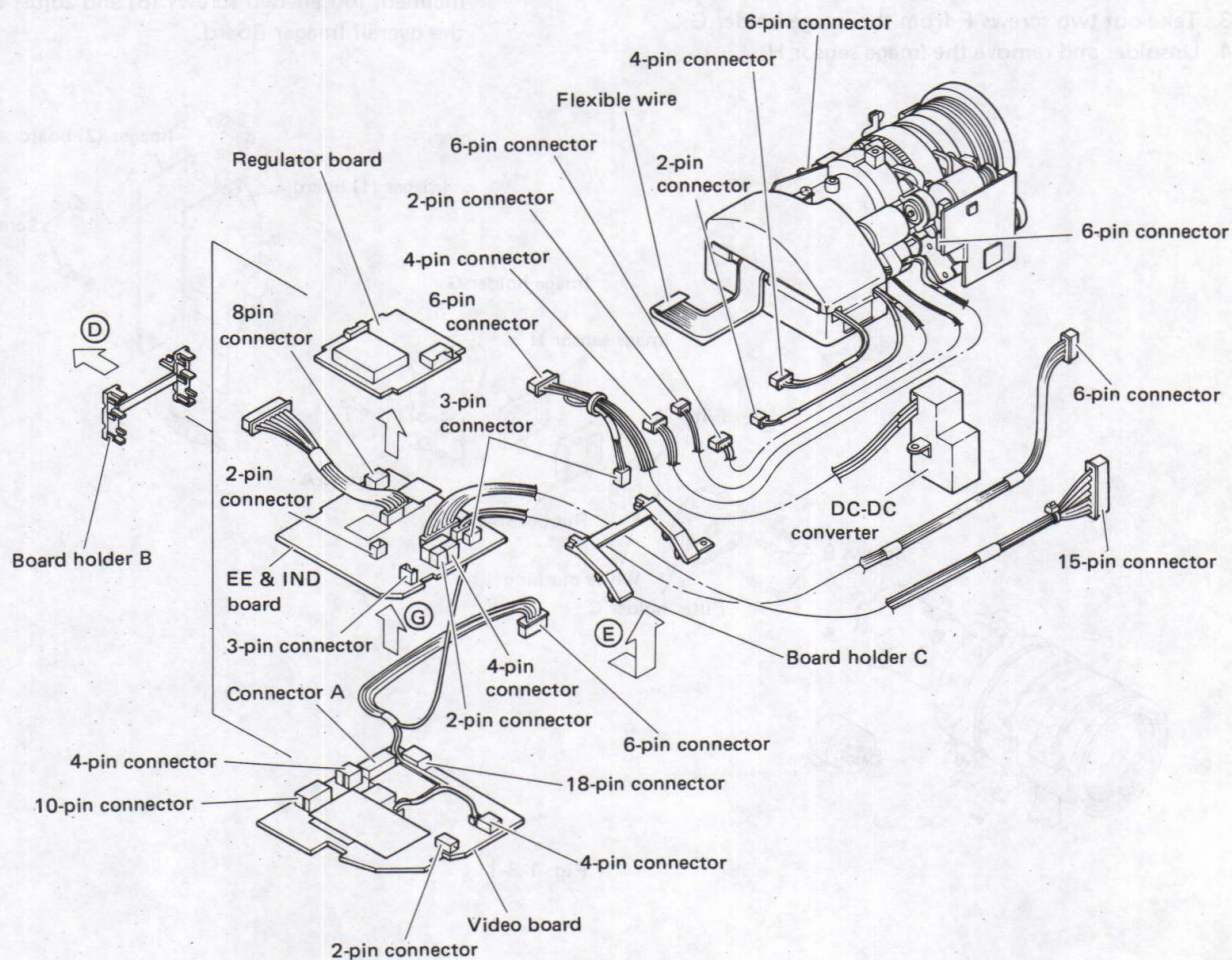

Fig. 1-2-3
1. Refer to Fig. 1-2-3 and disconnect the connector A. Remove board holders B and C in the directions D and E.